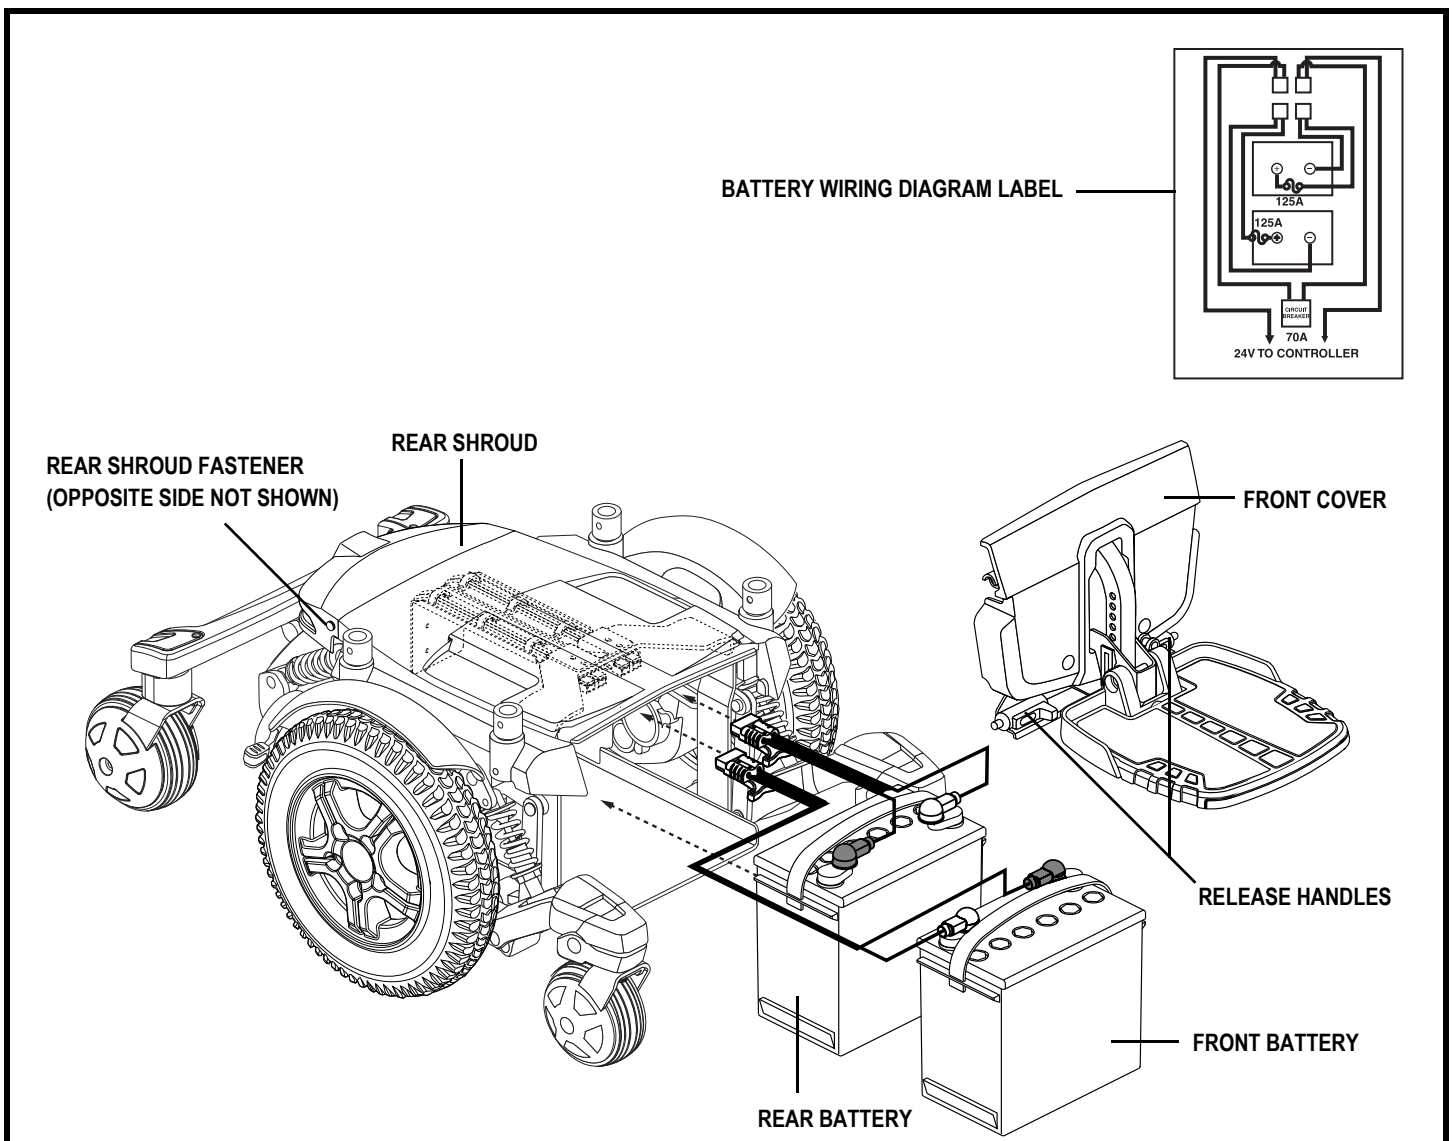

Figure 29. Battery Installation
3. Remove the foot platform by squeezing the release handles (see figure 29) and lifting the foot platform bracket up and away from the power base.
7. Connect the battery harness to the new front battery according to the battery wiring diagram. See figure 29.
8. Connect the battery harness to the new rear battery according to the battery wiring diagram. See figure 29.